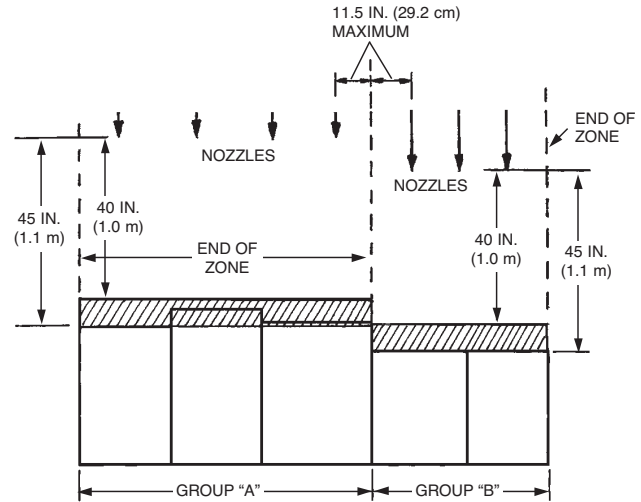

FIGURE 99
- On protected appliances, all hazard surfaces located in a group must be within 40-45 in. (1-1.1 m) from the nozzle(s). Once that dimension is exceeded, a new group must be started. See Figure 99.